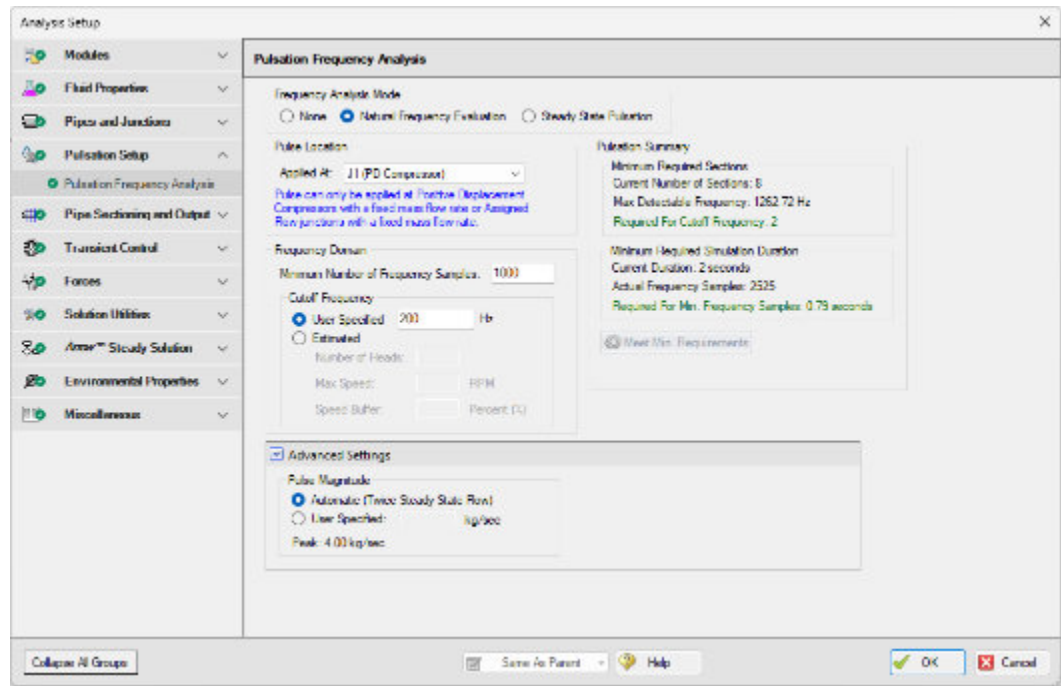

Figure 6.2 Pulsation Frequency Analysis panel in the Analysis Setup window with all pulsation settings defined
- ▶ **Define the Pulsation inputs** as follows (Figure 6.2):